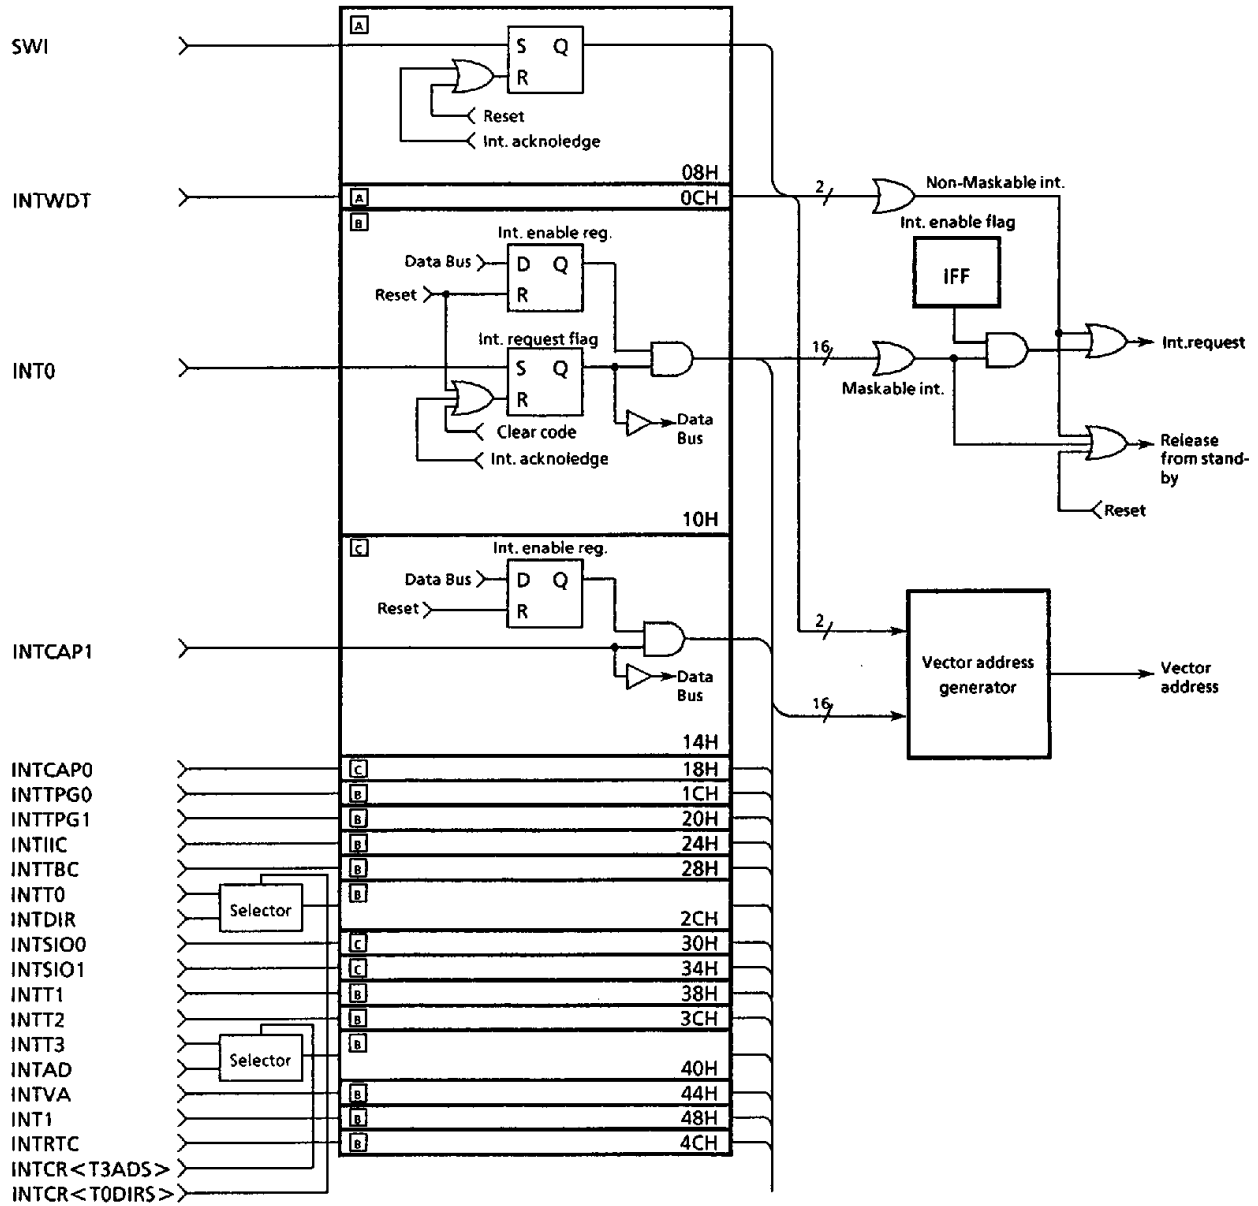

Figure 3.4.1 Configuration of Interrupt Controller
Fig.3.4.1 shows a configuration of the interrupt controller. The interrupt controller consists of Interrupt Request Flag (IRF) and Interrupt Enable register (INTE) allocated to each of interrupt channels. The interrupt request flag (IRF) is a flip-flop to maintain an interrupt request from internal I/O. Each flip-flop is reset to "0" by resetting or reading out the vector by CPU when an interrupt is accepted. The interrupt request flag (IRF) can be reset by an instruction which write clear code (Refer to Table 3.4.1) to the address F790 (H).